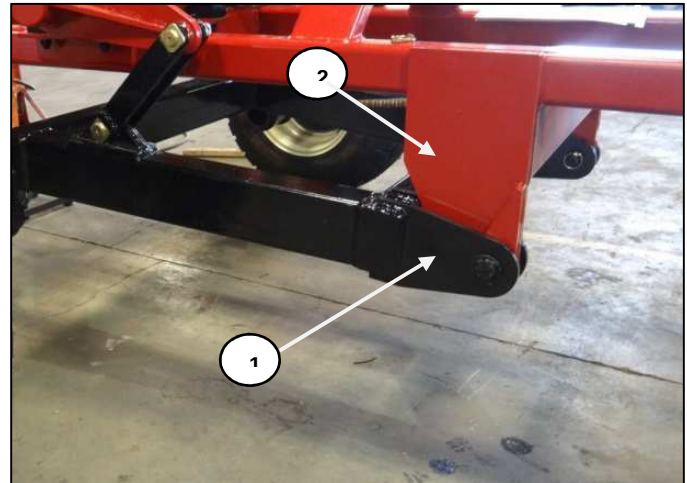

Figure 7
Use the fork lift to bring the Axle (item 1, Figure 7) in assembly area. Put one side of axle on the support stand and lift the other side with fork lift to connect with Hitch plate (item 2).